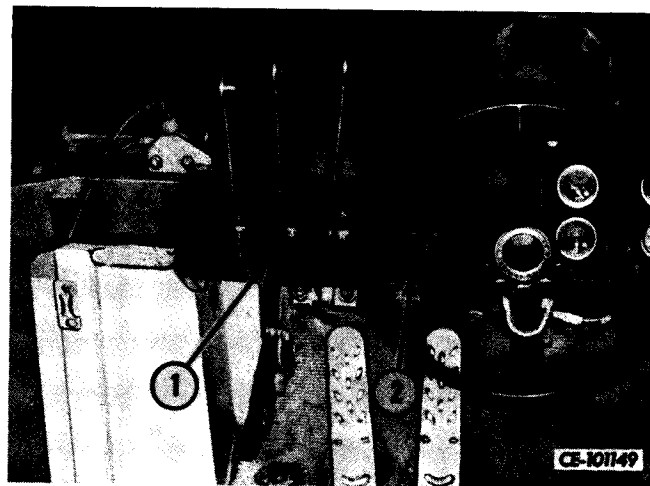

Figure 9-5
Remove hardware that secures control lever assembly (1, Fig. 9-5) to dash panel (2).
Position control lever assembly (1, Fig. 9-5) in dash panel (2) and secure with mounting hardware.